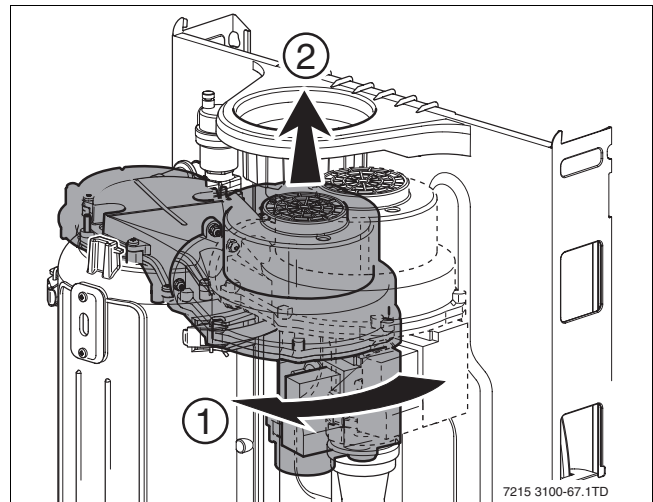

Fig. 69 Remove gas air unit
- By turning the unit a quarter turn (→ fig. 69, step 1), the unit can be removed by lifting it out of the boiler (→ fig. 69, step 2).